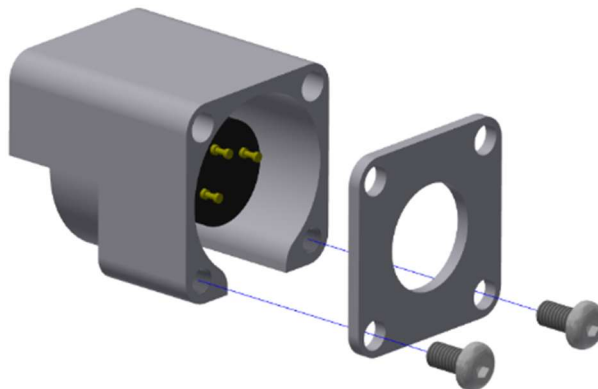

Figure 4-52. Install neck rotary potentiometer
- 4.3.26 Insert the Neck Rotary Potentiometer Washer (472-2021) into the Neck Rotary Potentiometer Housing (472-2013), then install the Occipital Condyle Rotary Potentiometer (SA572-S114) into the housing (Figure 4-52). Secure the two Neck Rotary Potentiometer Clamps (472-2020) over the base of the potentiometer and into the housing using four M2 X 0.4 X 6 SHCS.